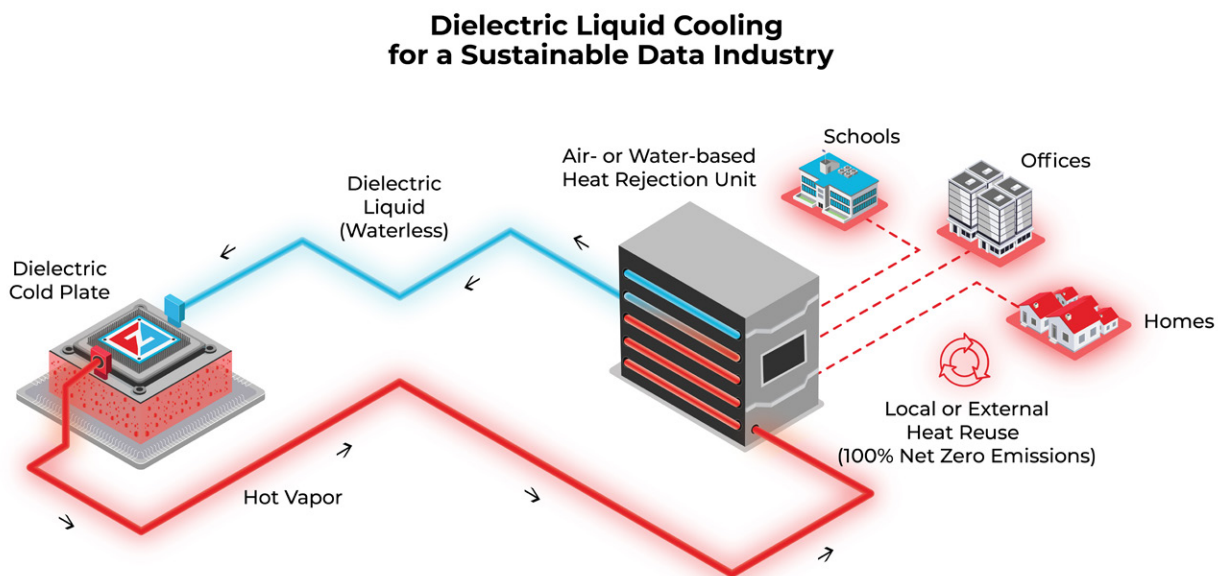

Figure 7: Local or external heat reuse for enhanced sustainability
- **Enhanced Sustainability** – Two-phase direct to-chip liquid cooling utilizes the temperature of hot vapor, ranging between 40 and 60°C (86 – 104°F), to extract heat from data center equipment. As shown in Figure 7, this heat can be expelled outside the data center or reused locally or externally through heat-reuse applications, significantly reducing the carbon footprint of the entire system and bringing data centers closer to achieving net-zero emissions.